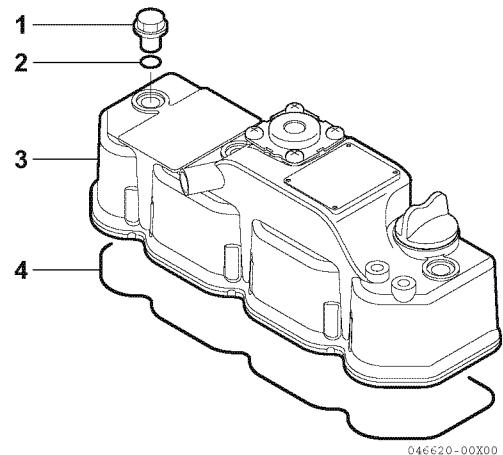

Figure 6-35
1. Apply a layer of grease to the new cylinder head cover gasket (4, **Figure 6-35**). Fit the gasket to the cylinder head cover (3, **Figure 6-35**).
3. Make sure that a new O-ring (2, **Figure 6-35**) is attached to the cylinder head cover nut. Attach and tighten the cylinder head cover nut (1, **Figure 6-35**).